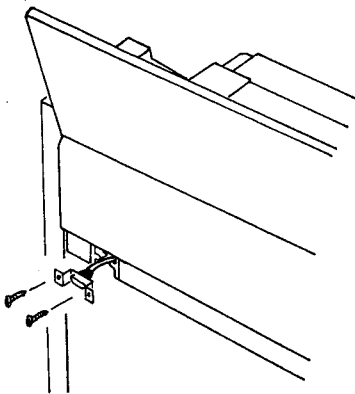

Fig. 3
5. Pass the 16 pin shielded cable assembly with a phono-type pin plug through the opening established when the cover plate is removed (see figure 3).
6. Using the two screws retained from step #2, attach the socket mounting bracket to the back as shown in figure 3.